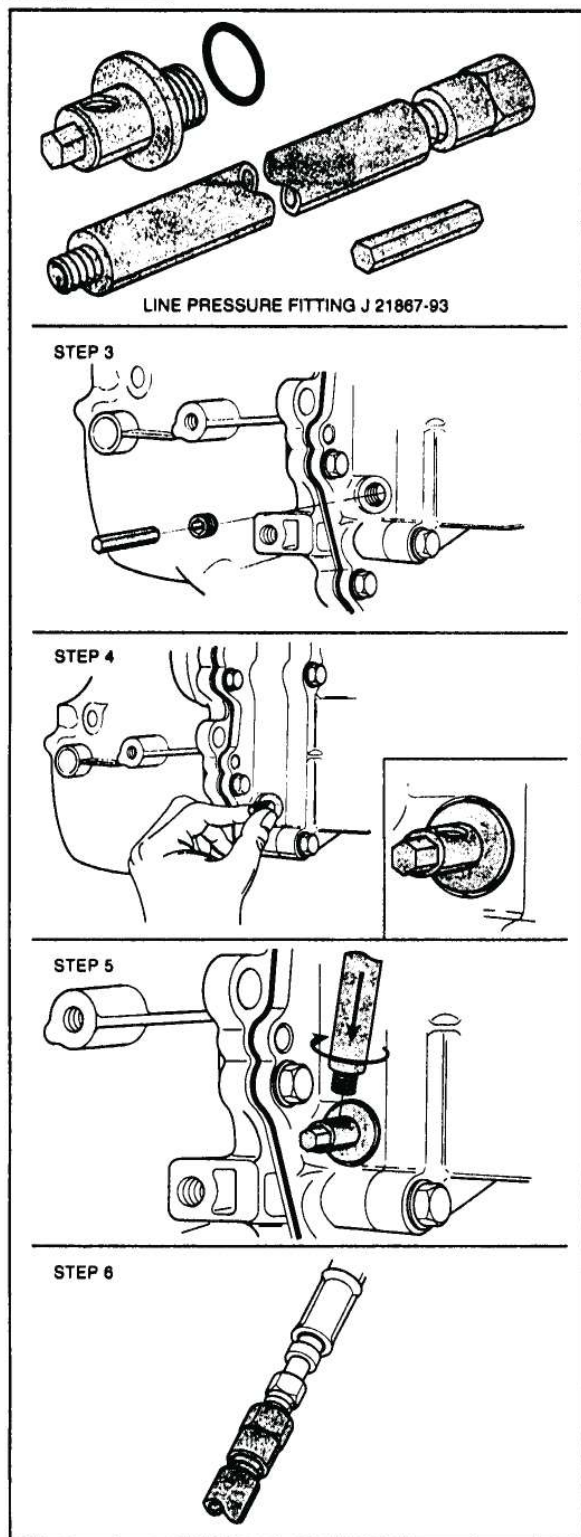

Figure 10
4. Install bar stock into pressure plug, and remove line pressure plug, as shown in Figure 10, Step 3.
5. Install line pressure fitting using a ratchet box wrench. Tighten adapter so the insert hole for the dowel rod is in a 1 O'Clock position. Refer to Figure 10, Step 4.
6. Lower vehicle and install dowel rod in fitting as shown in Figure 10, Step 5.
7. Attach line pressure gage and hose to dowel rod fitting as shown in Figure 10, Step 6.